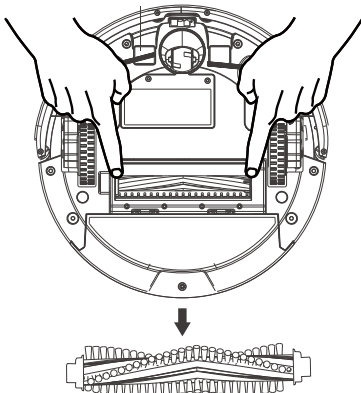

Figure 1
- Remove the main brush. Clean the bristle ends and the roller twice a week. (Figure 1)